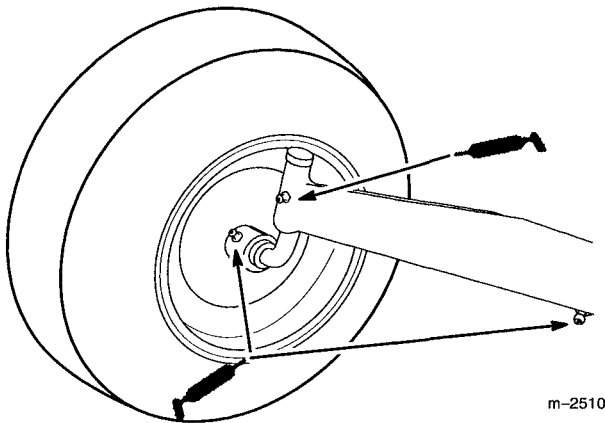

Figure 21
1. Lubricate the front wheels, spindles and tie-rod ends until grease begins to ooze out of the bearings (Fig. 21).
2. Lubricate the front axle pivot (Fig. 21).